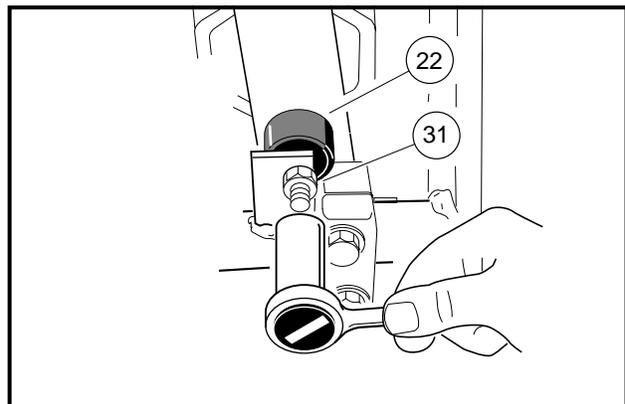
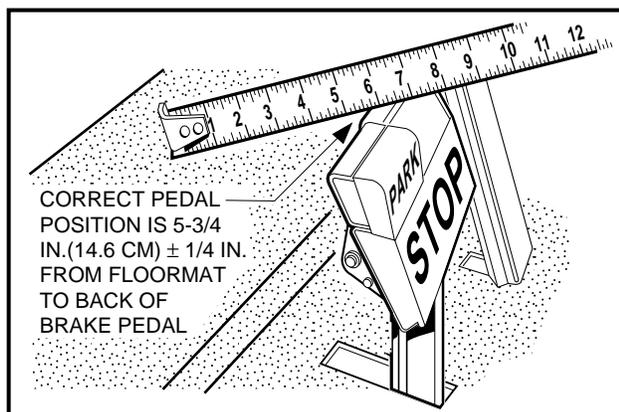

Figure 5-2 Adjust Brake Pedal Height
Figure 5-3 Measure Brake Pedal Height
- 1.2. Loosen the brake stop jam nut (31), then relieve pedal pressure on the stop by pushing down slightly on the pedal. Then adjust the brake stop bumper (22) up or down (**Figure 5-2, Page 5-2**). Adjusting the bumper upward decreases distance between pedal and floorboard. Adjusting the bumper downward increases distance between pedal and floorboard. Proper brake pedal height is 5-3/4 in. (14.6 cm) \pm 1/4 in (.6 cm) (**Figure 5-3, Page 5-2**).
- 1.3. Tighten the jam nut (31) to 8 ft.lb. (9.5 N-m) (**Figure 5-2, Page 5-2**).